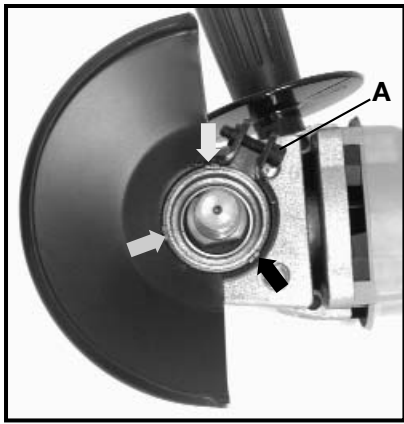
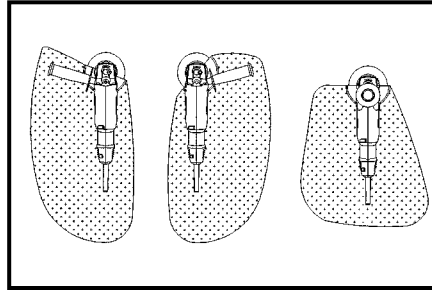

Fig. 3
Fig. 4
3. Position the appropriate guard to the machine so that the three bosses (inside the guard mounting clamp) are aligned with the three notches in the mounting flange of the grinder (see Fig. 3).
4. Seat guard onto mounting flange. Rotate the guard to a position that will place the guard between the operator and the grinding wheel (or other accessory requiring a guard). Tighten clamp screw (A) Fig. 3, to secure the guard in proper position (see Fig. 4).
**⚠ WARNING:** Always make sure the wheel guard is positioned between operator and the wheel, so that flying chips or pieces of a wheel that might break will be deflected away from the operator (see Fig. 4).